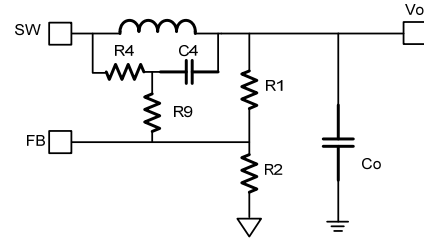

Figure 12: Simplified Circuit with External Ramp
C4 acts as a feed-forward capacitor to improve the transient and can be set in the range of 0 - 1000pF. A larger value for C4 leads to better transient, but it is more noise sensitive. Reserve room for a noise filter resistor (R9) (see Figure 12).
Besides the R1 and R2 divider, the output voltage is influenced by R4 (see Figure 12). R2 should be chosen reasonably. A small value for R2 leads to considerable quiescent current loss, but a value for R2 that is too large makes FB noise sensitive. It is recommended to choose a value within 5 - 50k Ω for R2. Use a comparatively larger value for R2 when V_{OUT} is low; use a smaller value for R2 when V_{OUT} is high. The value of R1 then is determined with Equation (4):